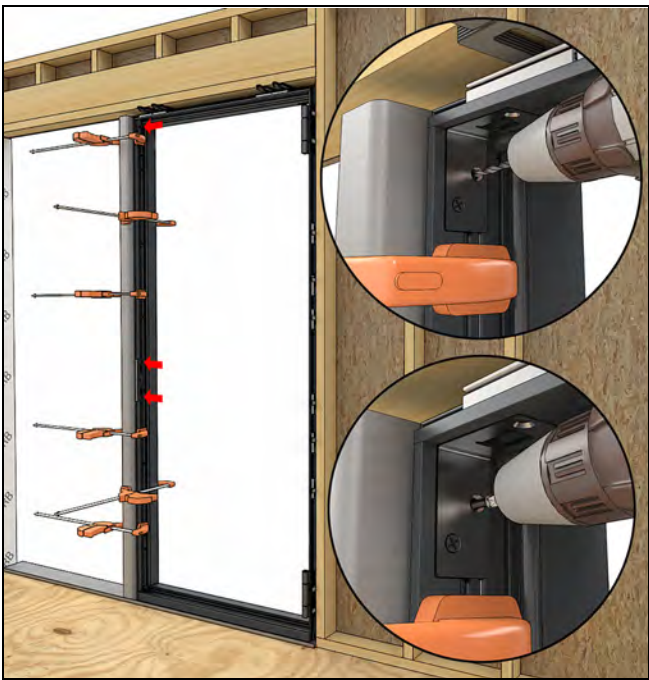

Figure 229
13. Using the pre-drilled hardware holes in the frame as a guide, drill through the steel with the appropriate bit. Use the table in step 12 on page 62 as a guide. See Figure 229.